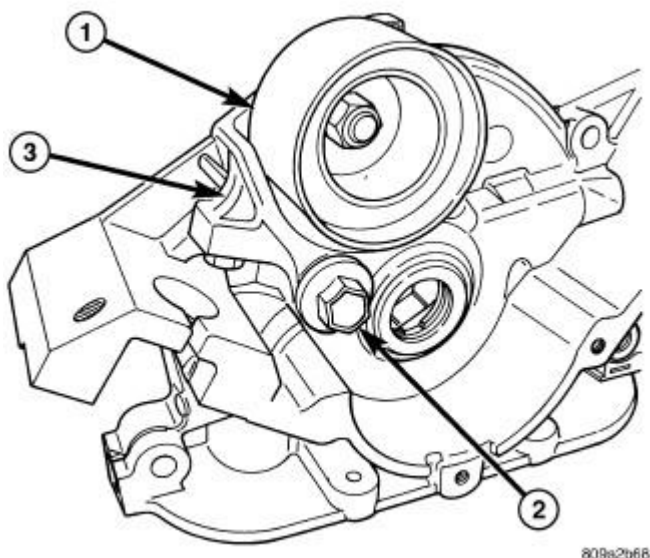

Fig. 525: Tensioner Pulley, Pivot Bolt & Tensioner Bracket
1. Inspect pulley (1) for free movement. Refer to **Fig. 525**. Replace if pulley is loose, seized, or rough turning.
3. Inspect pivot bolt (2) for free movement in assembly housing. Replace assembly if seized or excessive looseness.